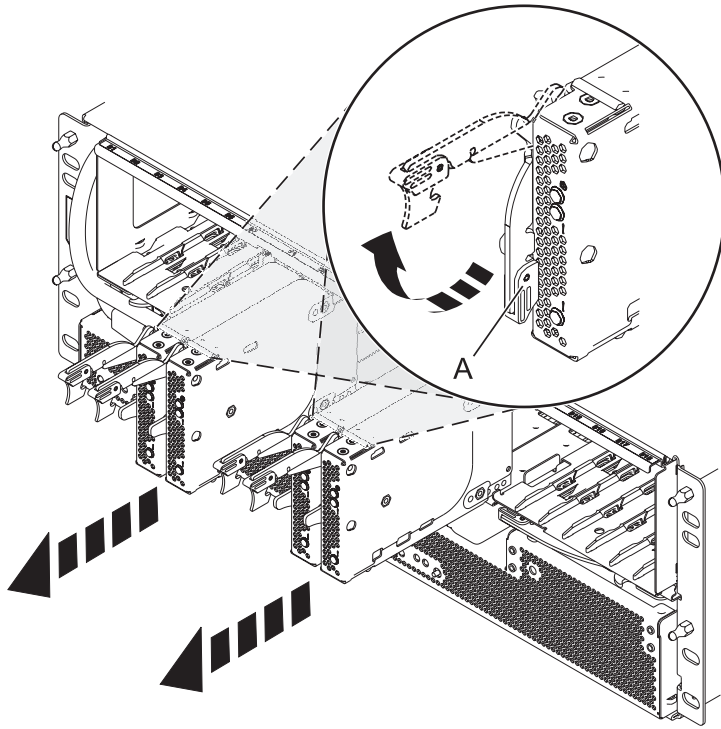

Figure 2. Removing the port card from the backplane
7. Remove the port cards and fillers from the backplane in the 5802 expansion unit as shown in Figure 2 on page 4.